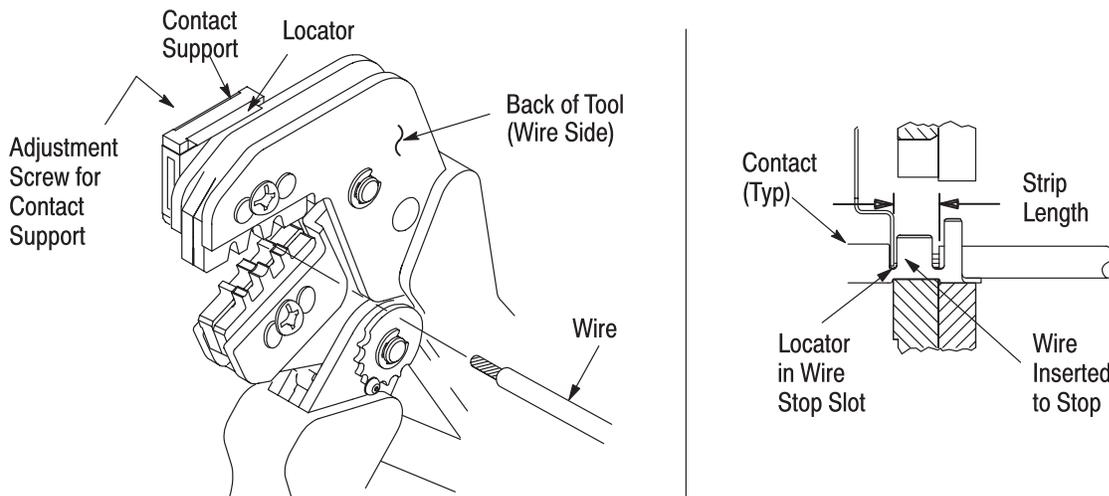

Figure 3
4. CONTACT SUPPORT ADJUSTMENT (Figure 3)
Refer to the table in Figure 1 and select wire of the specified size and insulation diameter. Strip the wire to the length indicated in Figure 1, taking care not to nick or cut wire strands. Select an applicable contact and identify the appropriate crimp section according to the wire size markings on the tool. Refer to Figure 3 and proceed as follows:
3. Position the contact so that the mating end of the contact is on the locator side of the tool, and so that the open “U” of the wire and insulation barrels is facing the top of the tool. Place the contact up into the nest so that the movable locator drops into the slot in the contact. Refer to Figure 3. Butt the front end of the wire barrel against the movable locator.
5. Insert stripped wire into contact insulation and wire barrels until it is butted against the wire stop, as shown in Figure 3.
NOTE  The crimped contact may stick in the crimping area, but the contact can be easily removed by pushing downward on the top of the locator (see Figure 3).